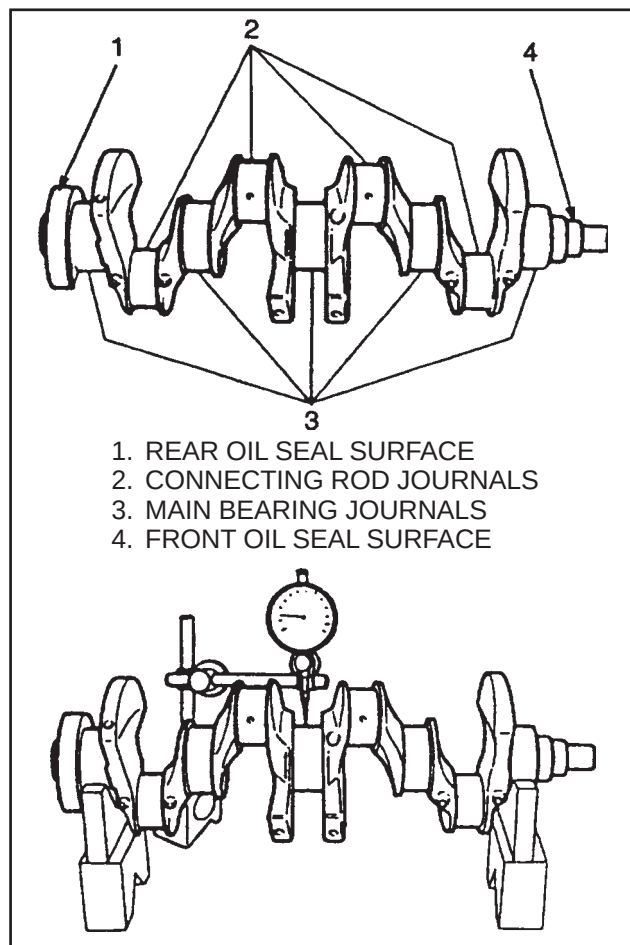

FIGURE 29. CRANKSHAFT INSPECTION
2. Use a micrometer to measure the diameter of the journals for the crankshaft. See FIGURE 29. Make the measurement at several locations for each journal. If the measurements are less than specifications, grind the crankshaft and install undersize bearings. The correct dimensions for the journals are as follows:
3. Check the crankshaft for being straight. See FIGURE 29. Put the front and rear journals in V blocks and rotate the crankshaft one complete turn. The maximum amount that the dial indicator can indicate is 0.03 mm.